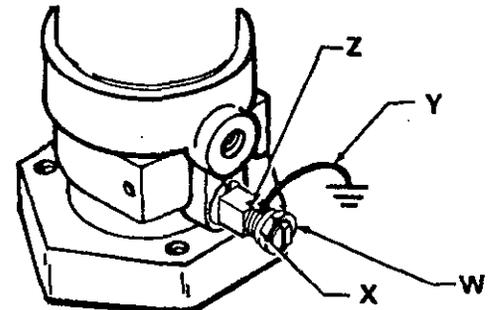

Fig 1
1. *Pump:* use a ground wire and clamp as shown in Fig 1.
To ground the pump, loosen the grounding lug locknut (W) and washer (X). Insert one end of a 1.5 mm² (12 ga) minimum ground wire (Y) into the slot in lug (Z) and tighten the locknut securely. See Fig 1. Connect the other end of the wire to a true earth ground.